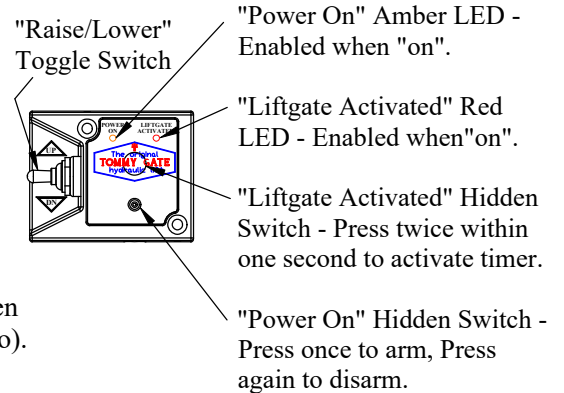

Figure 3: Control Terms.
4. To turn the control power on, press the "POWER ON" hidden switch once, marked with white rings or circles (located below the Tommy Gate logo). You should see the amber LED "POWER ON" light when the control is armed. To disarm the control press the "POWER ON" hidden switch again. Terms used for the control are shown in (Figure 3).